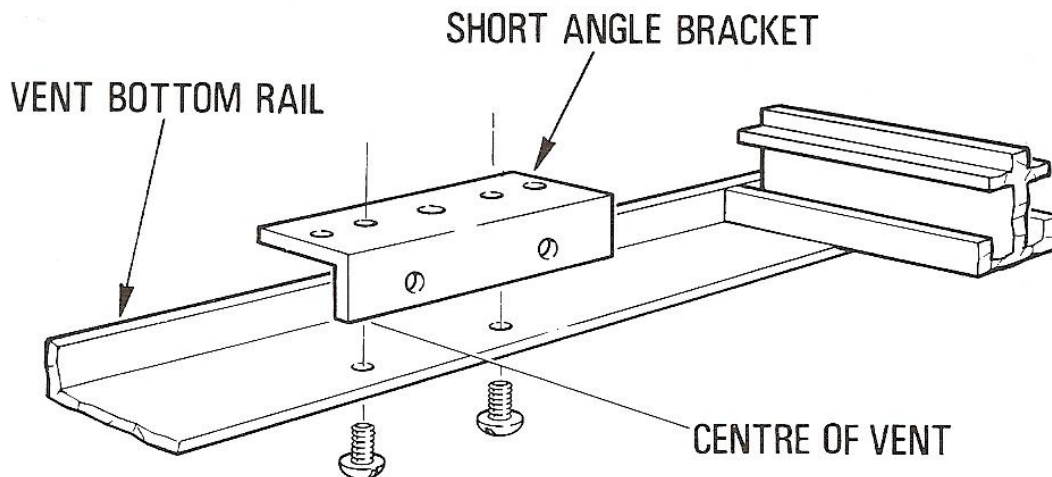

Fig. 2
2. Mark the middle of the vent bottom rail. Remove the two short round head screws from the short angle bracket contained in the screw pack. Hold the short angle bracket against the upper surface of the vent bottom rail so that the middle of the bracket is at the middle of the vent bottom rail. Mark off and drill two holes $\frac{3}{16}$ " diameter clearance through the vent bottom rail, which coincide with the THREADED holes in the short angle bracket. Fasten the bracket to the bottom rail with the two screws. **See Fig. 2.**